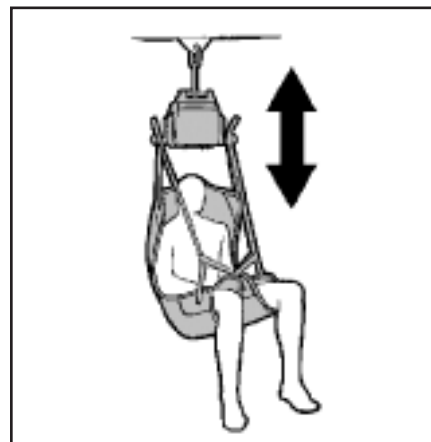

Figure 3
9. Lift until the buttocks of the person being lifted clear the arm supports or the top of the bath or bed before moving the person (Figure 3). Guide the legs past any obstacle.